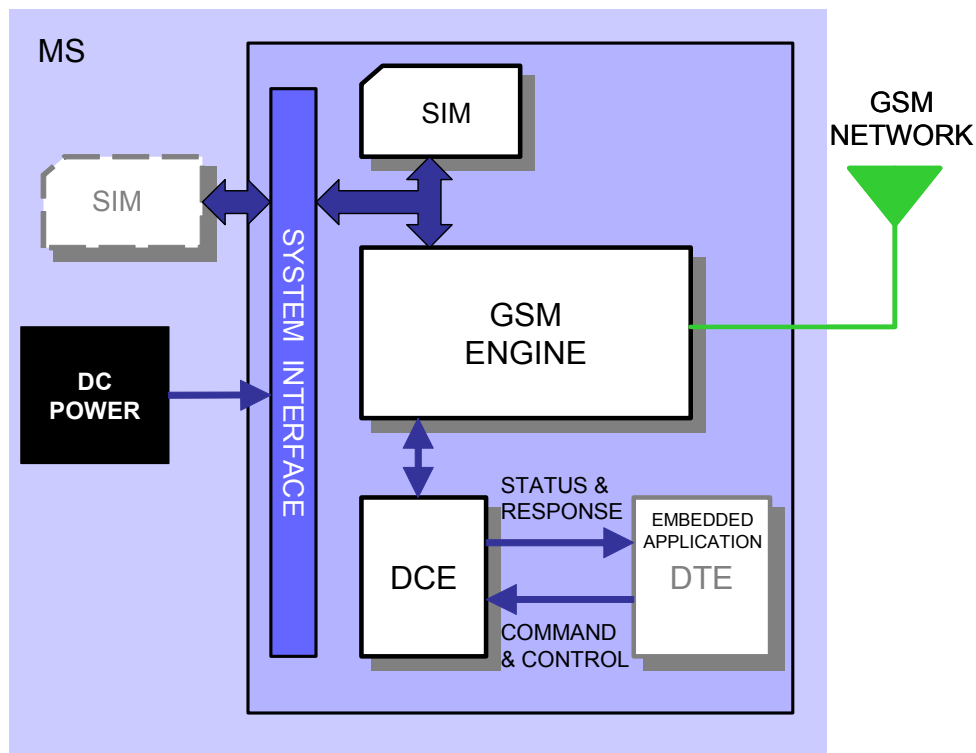
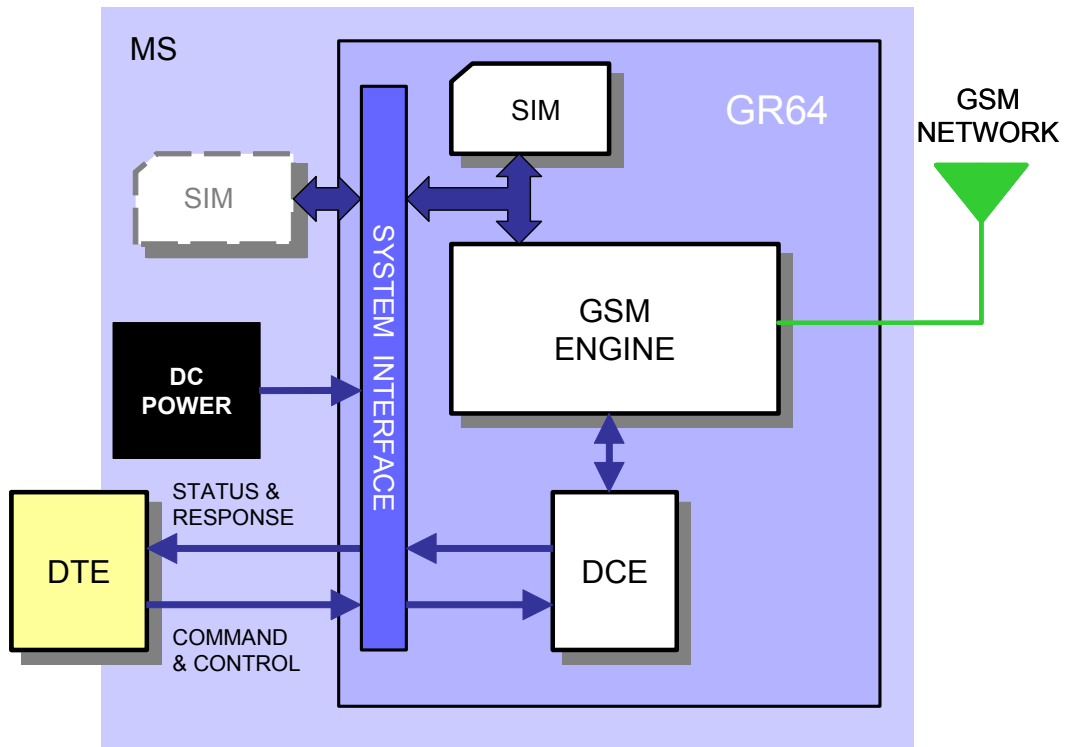

Figure 2.2-1 Main Blocks in a Wireless System (embedded application)
Figure 2.2-2 Main Blocks in a Wireless System (external micro-controller)
*Figure 2.2-1* and *Figure 2.2-2* illustrate the main blocks of a wireless communication system using the wireless modem. *Figure 2.2-1* shows the communication system when the script is embedded on the wireless modem and *Figure 2.2-2* shows the communication system when a micro-controller is used. They also show the communication principles of the system and the interface between the wireless modem and the application. The definitions in the figures, as used elsewhere in this manual, are in accordance with the recommendations of 3GPP TS 27.007.